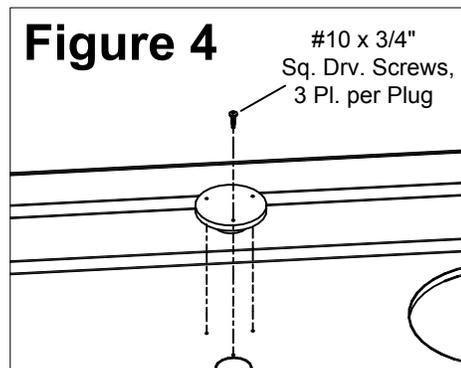

Figure 5
Place the (6) Roof Support Castings over the Posts and align them as shown in Figure 5.